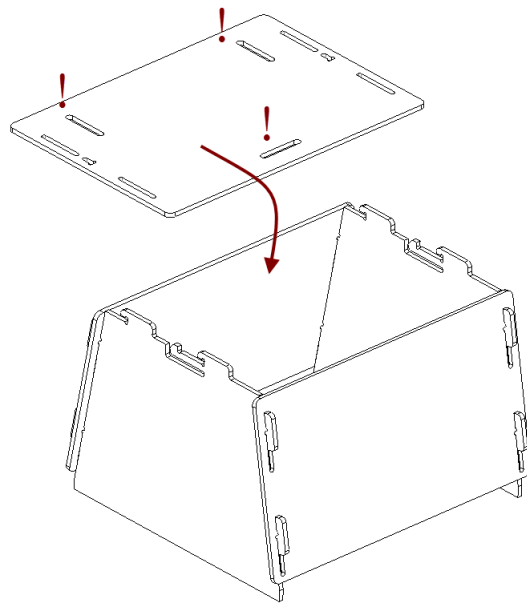

Figure 178: Mounting the cover.
3. Paying attention to orientation of the slots, install the cover using the upper hooks of the side walls (see Figure 178).